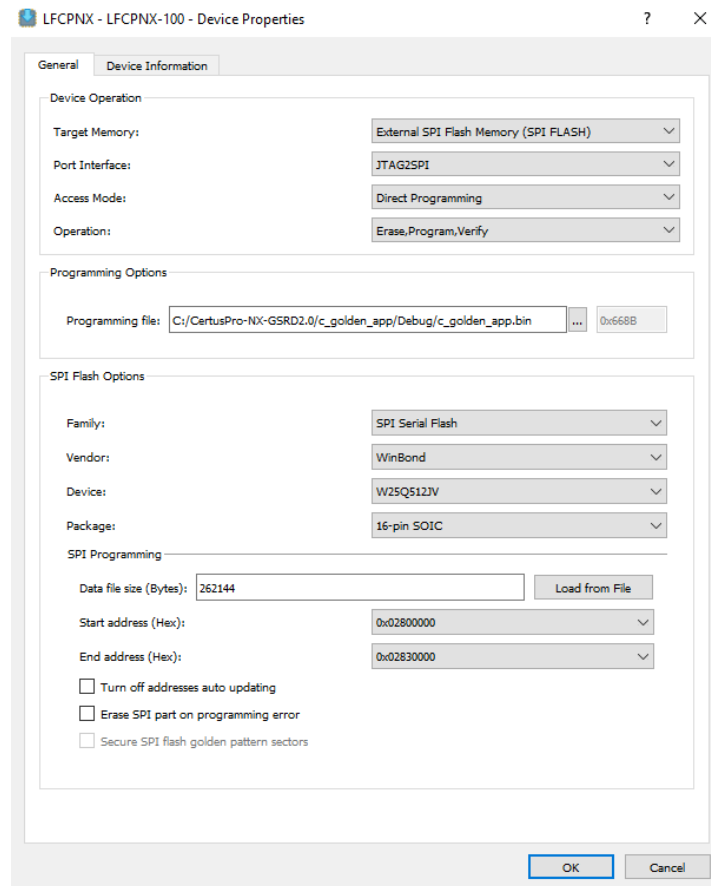

Figure 7.36. Device Properties settings to program the Golden Application
4. To program the **c_golden_app.bin** software file into the SPI Flash, Follow the settings as shown in Figure 7.36.